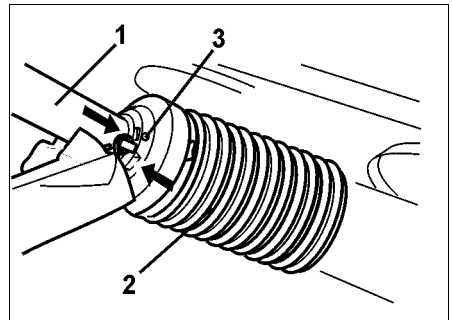

**Fig. 26**
- Slacken grease nipples (Fig. 26/1) and push on the PTO shaft (Fig. 26/2)
- Affix connecting yoke (Fig. 26/3) by using a shear bolt (Fig. 26/4).
- Insert grease nipples (Fig. 26/1).